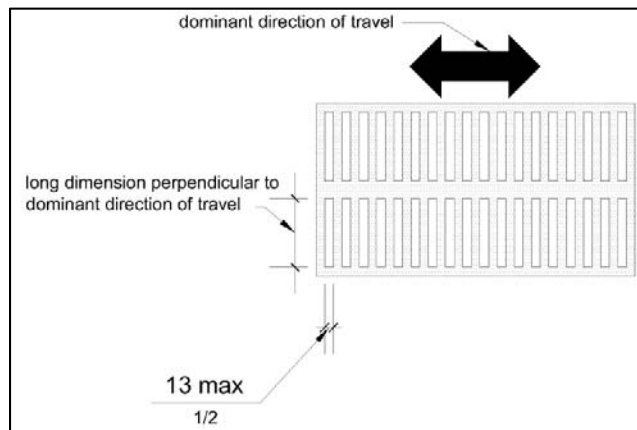

Figure 22 - Openings in Grates and Joints
- Horizontal openings in gratings and joints do not permit passage of a sphere more than 0.5 in. diameter (see **Figure 22**). *PROWAG R302.7.3*
- Elongated openings in grates and joints are placed so that the long dimension is perpendicular to the dominant direction of travel (see **Figure 22**). Where no dominant flow pattern, openings do not permit passage of a sphere more than 0.5 in diameter in both directions. *PROWAG R302.7.3; TDOT Ped Standards*